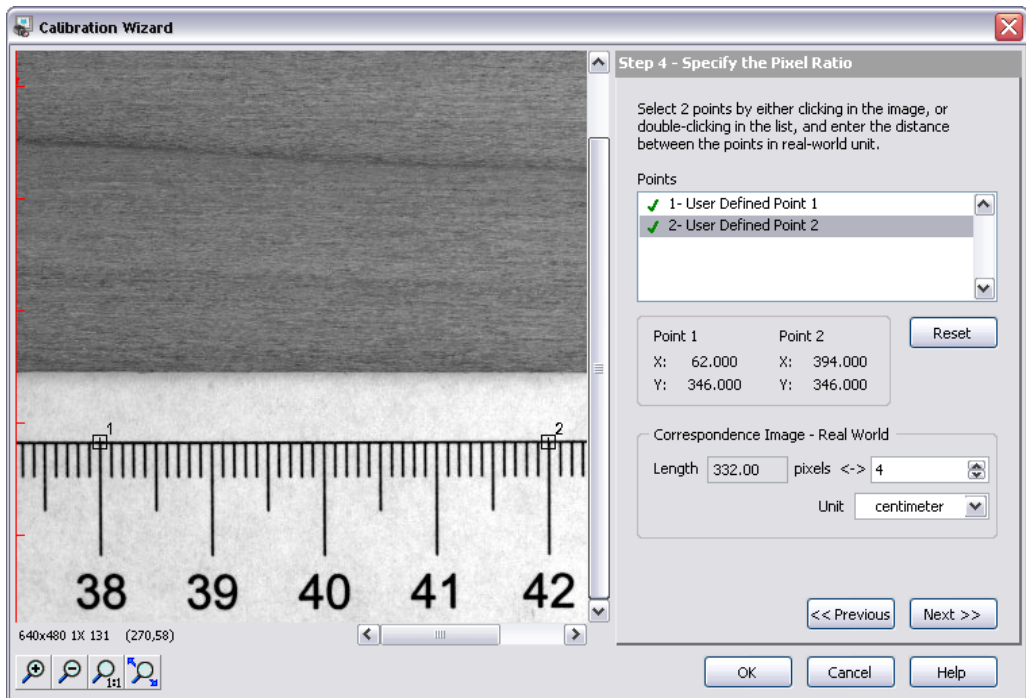

Figure 5-3. Defining the Pixel to Real-World Ratio
16. In the **Specify the Pixel Ratio** step, carefully click the 38 cm and 42 cm markings on the ruler at the bottom of the image, as shown in Figure 5-3.